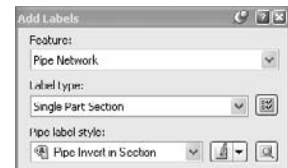

Figure 11.16
5. Use the `Pipe Label Style` drop-down list to choose `Pipe Invert in Section`. Your selections will look like Figure 11.16.